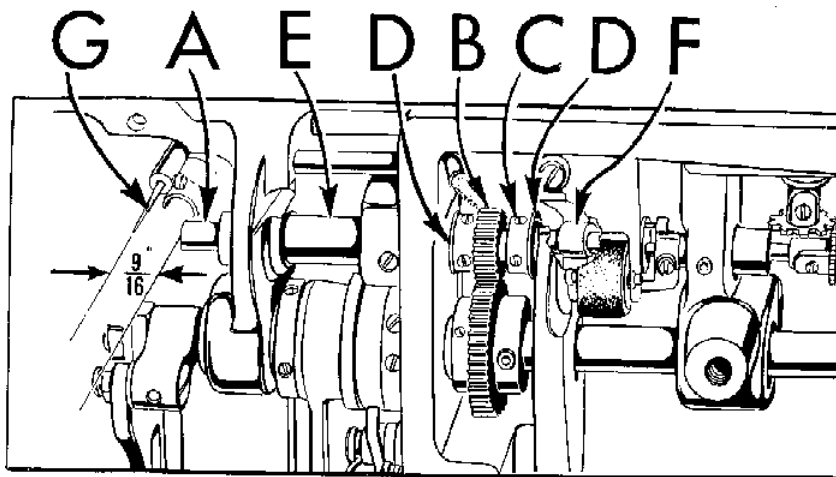

Fig. 22
The hook shaft (A, Fig. 22) is held in position by the pinion (B) and collar (C) thrusting against hard steel washers (D) between the long left hand bushing (E) and the short right hand bushing (F).
Before reassembly, the end of the hook shaft, its spiral groove and the pump disc should be thoroughly cleaned. Remove any end play found in the hook shaft and determine that the 35/64 inch dimension has been maintained (Fig. 22).